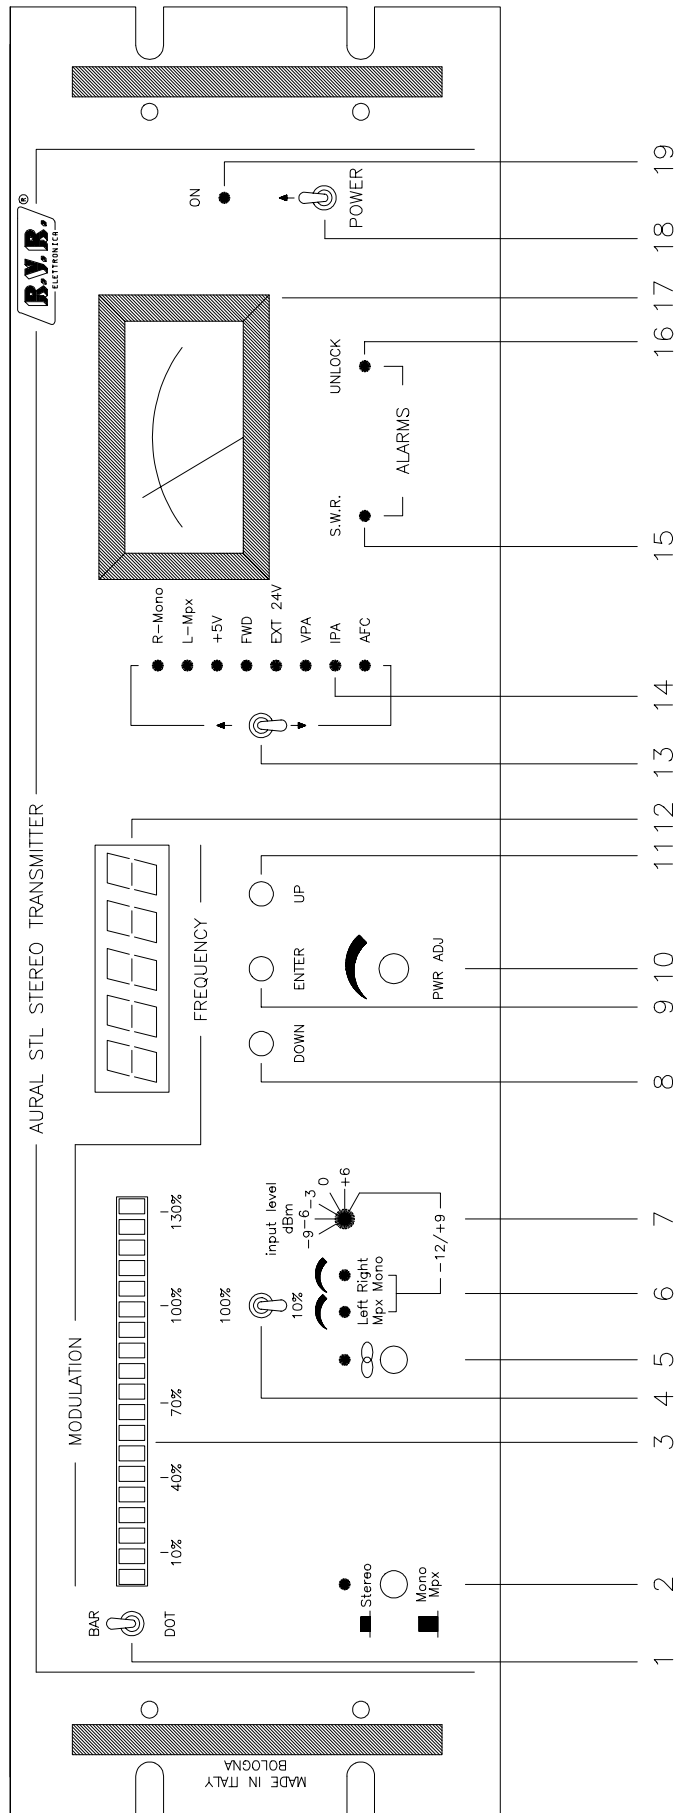

FIG. 1
Peak deviation can be measured with the bar-graph display (3 Fig.1) with a resolution of 5%.
The five-figure display (12 Fig.1), mounted centrally, indicates the operating frequency selected by the UP (11 Fig.1) and DOWN (8 Fig.1)
controls and saveable with the ENTER (9 Fig.1) control. Two alarm conditions leds provide indication of VCO unlocked (16 Fig.1) and excess standing waves on the output (15 Fig.1).
This circuit comprises two cards and a meter mounted on the right hand side of the front panel (Photo 1-2). This sub-assembly displays the values of various operating parameters of the transmitter: internal voltages and currents, direct power and external 24V. The parameters are selected by a lever switch (13 Fig.1) and the selection is indicated by the legend of the green led (14 Fig.1).
This circuit also features a red UNLOCK led (16 Fig.1) and a red SWR led (15 Fig.1), controlled by the power supply. In addition there are: a red power led (19 Fig.1), a power output PWR trimmer (10 Fig.1) and the mains supply switch (18 Fig.1).
(Fig. 1)
- 4) Switch the power switch (18 Fig.1) to the OFF position.
- 6) Switch the power switch to the ON position and check that the green POWER ON led (19 Fig.1), the red UNLOCK led (16 Fig.1) and the led corresponding to the parameter selection PWR FWD (14 Fig.1), are all lit.
After a few seconds the central display (12 Fig.1) will come on and display a number (eg. 1790.00) corresponding to the last operating frequency to have been programmed.
To change this number, use the UP (11 Fig.1) and DOWN (8 Fig.1) buttons to respectively increase it and decrease it.
Once the desired frequency has been found, press ENTER (9 Fig.1) to confirm and save it.
To make this measurement, ensure that the PWR ADJ led is on by setting the meter switch (13 Fig.1) to the corresponding position and then take the reading from the 50W FDS scale on the meter.
Set the modulation bar-graph display gain (4 Fig.1) to 100%.
Inject a 400Hz tone at a level of -10 dBm for the european version or 0dBm (775mV RSM = 2.2V peak to peak) for the american version. Check that the bar-graph display (3 Fig.1) lights upto the first red led, indicating 100% deviation.
With the DOT/BAR switch (1 Fig.1) in the BAR position, all the green leds and first red led will be on; in the DOT position only the first red led will be on.
Now disconnect the audio generator and ensure that all the bar-graph leds go out (3 Fig.1).
Set the control (4 Fig.1) to 10% and inject a 400Hz tone of -30dBm (-20 dBm for the american version) and repeat the proceeding operation. The procedure should be followed first for the MONO input and then for the STEREO input.